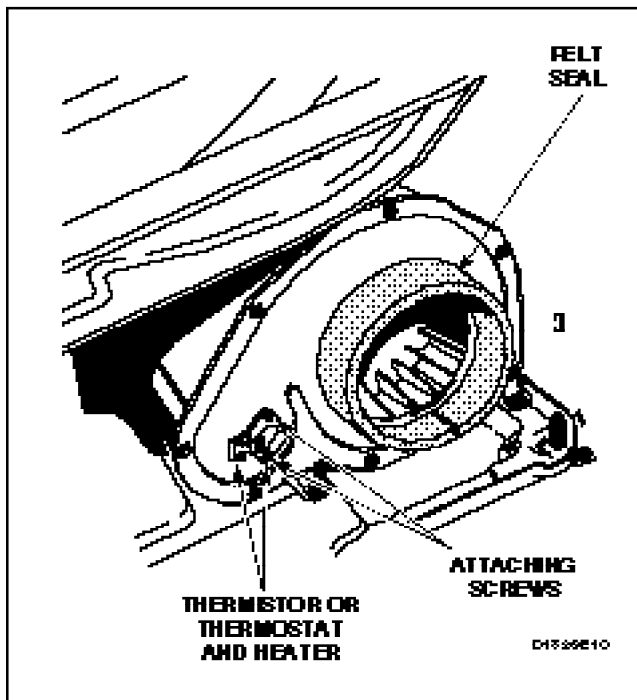

Figure 27
- Disconnect wires and remove thermostat attaching screws, *Figure 27*, and remove thermostat and heater.
IMPORTANT: When reassembling, be sure felt seal on exhaust fan cover makes airtight seal on flange of duct, *Figure 27*. If the seal is installed improperly, the airflow through the exhaust system will be restricted which can adversely affect dryer performance.